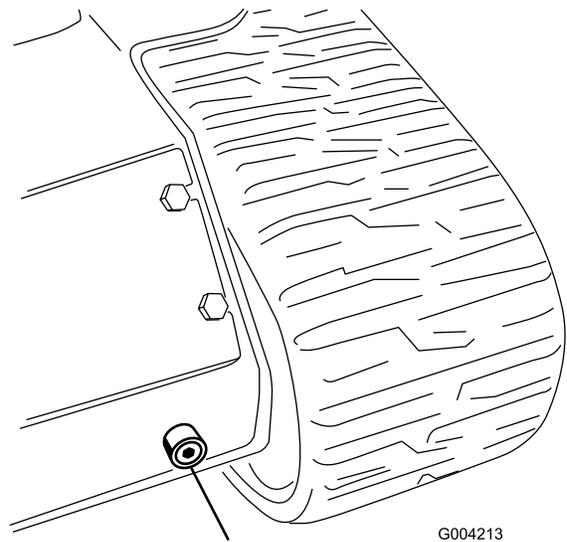

Figure 60
6. Place a large drain pan (capable of holding 15 US gallons) under the drain plug on the front of the traction unit (Figure 60).
7. Remove the drain plug and allow the oil to drain into the pan (Figure 60).